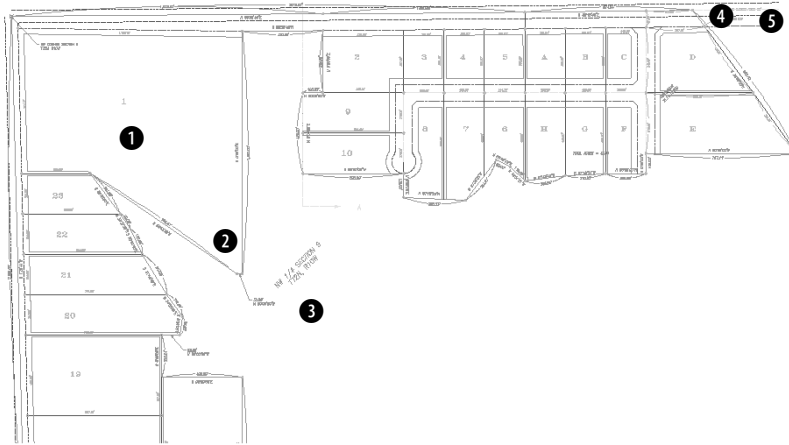

Figure 13-18: The plat drawing.
2. Save the file as `ab13-05.dwg` in your AutoCAD Bible folder. This is a plat drawing, as shown in Figure 13-18.
3. Choose Multiline Text from the Draw toolbar. At the prompts, pick points ① and ② in Figure 13-18. The In-Place Text Editor opens. In the Text Height box, type a height of **12.5**. In the main editing box, type the following:
5. Open Windows Explorer (Start ⇨ Programs ⇨ Windows Explorer). Find `ab13-c.txt` on your CD-ROM. Move the Windows Explorer window so that you can see both `ab13.txt` and your drawing screen. Drag `ab13-c.txt` from the Windows Explorer window to to ③ in Figure 13-18. If necessary, pick a grip, press the Spacebar once to choose the Move option, and click at the proper location.
8. Choose Zoom Previous on the Standard toolbar to return to your original view. Use Zoom Window to zoom in to the area bounded by ④ and ⑤. Set the current layer to 0, which is a gray color.
10. At the prompt, pick ④ and ⑤, centering the boundary box around the yellow centerline. In the Text Height box of the Text Formatting toolbar, change the text to 12.5. The text style should be ROMANS. Type the following text: